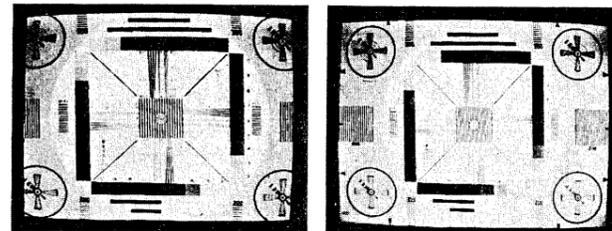

Fig. 9
- Adjust H. SIZE VR301 and V. SIZE VR302 so that the reference arrow heads in the resolution chart line up with the edge of the raster on the underscanned monitor. (Fig. 9)